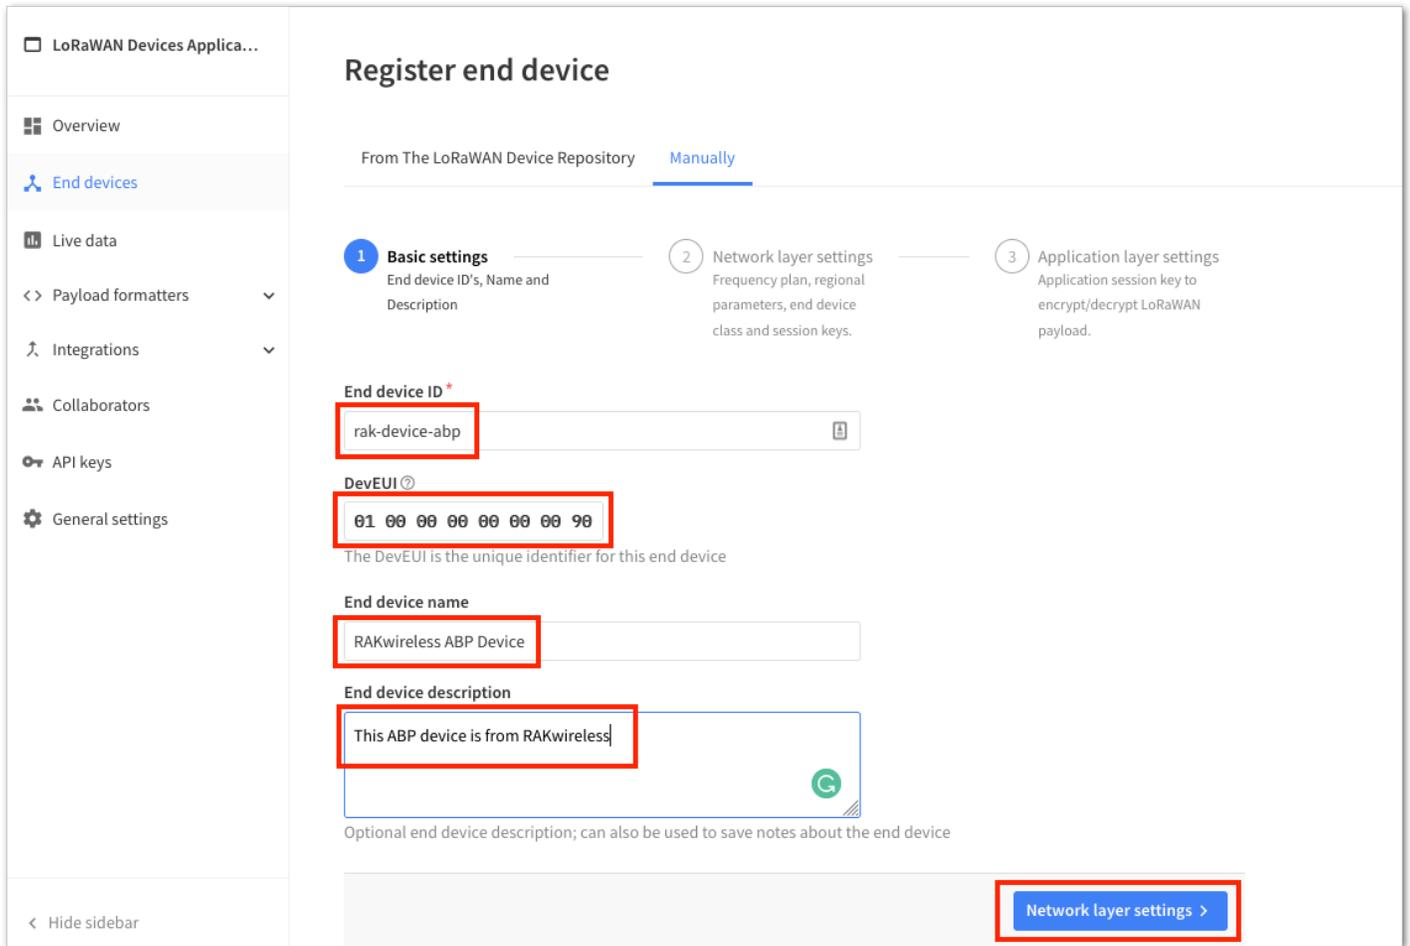

Figure 61: ABP device information
3. At this step, you need to put a unique **End device ID** and **DevEUI**, as shown in **Figure 61**. Check if your module has a DevEUI on the sticker or QR that you can scan then use this as the device unique DevEUI.